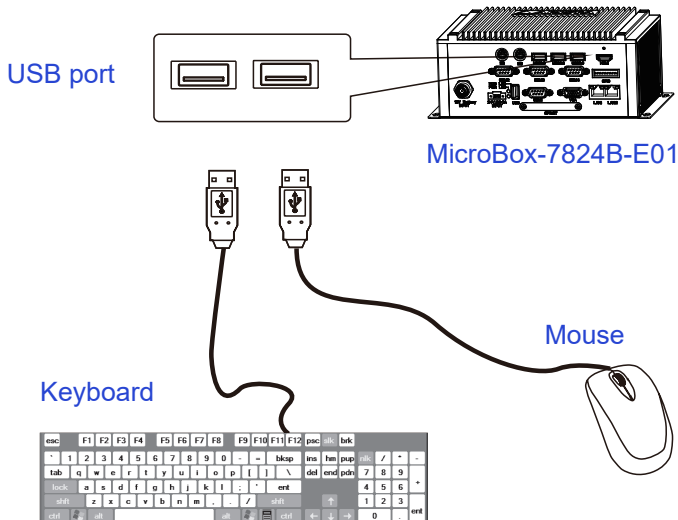

Figure 1
- Insert a USB keyboard and a USB mouse(not supplied) to MicroBox-7824B E-Series for controlling on the computer(Figure 1). You can also insert a PS2 type keyboard or a PS2 type mouse(not supplied) to your MicroBox-7824B E-Series industrial computer(Figure 2).